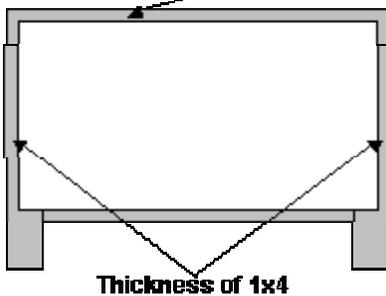

Figure 5
5. Assemble one side. Attach part A to the good side of the plywood, using plenty of glue, and either screws, heavy staples, or clamps to hold it all together until the glue dries, making sure the 1x4 sticks above the plywood by [PT], and extends [T] beyond each edge. Attach the legs (parts B) in place keeping an even [T] overhang at the edge. Attach part D, making sure it is straight. See Figure 5.